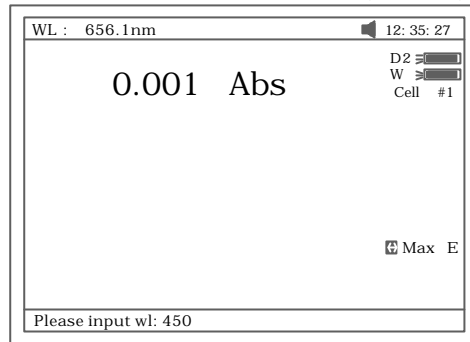

Fig 11
- ✧ Use numeric keypad to input wavelength (Fig 11).